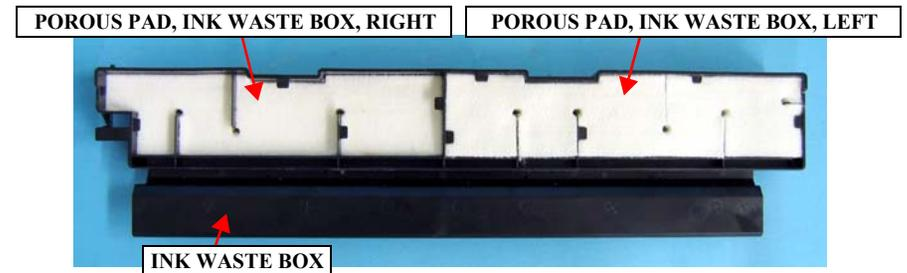

Figure 4-96. Removing the POROUS PAD, INK WASTE BOX, RIGHT/LEFT
- Remove the POROUS PAD, INK WASTE BOX, RIGHT and the POROUS PAD, INK WASTE BOX, LEFT from the INK WASTE BOX. See Figure 4-96.